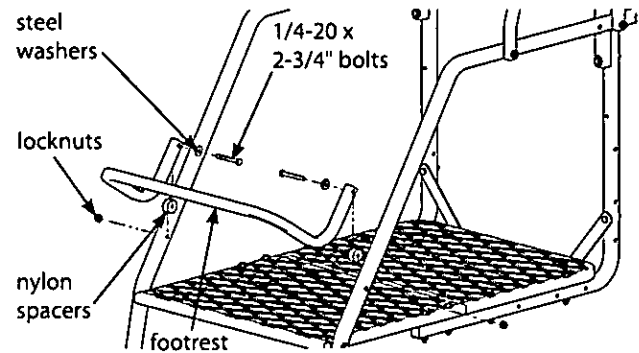

Figure 5
7. Attach footrest (410092) to ladder side rails using (2) provided 1/4-20 x 2-3/4" bolts, locknuts, steel washers and nylon spacers. **SEE FIGURE 5.**